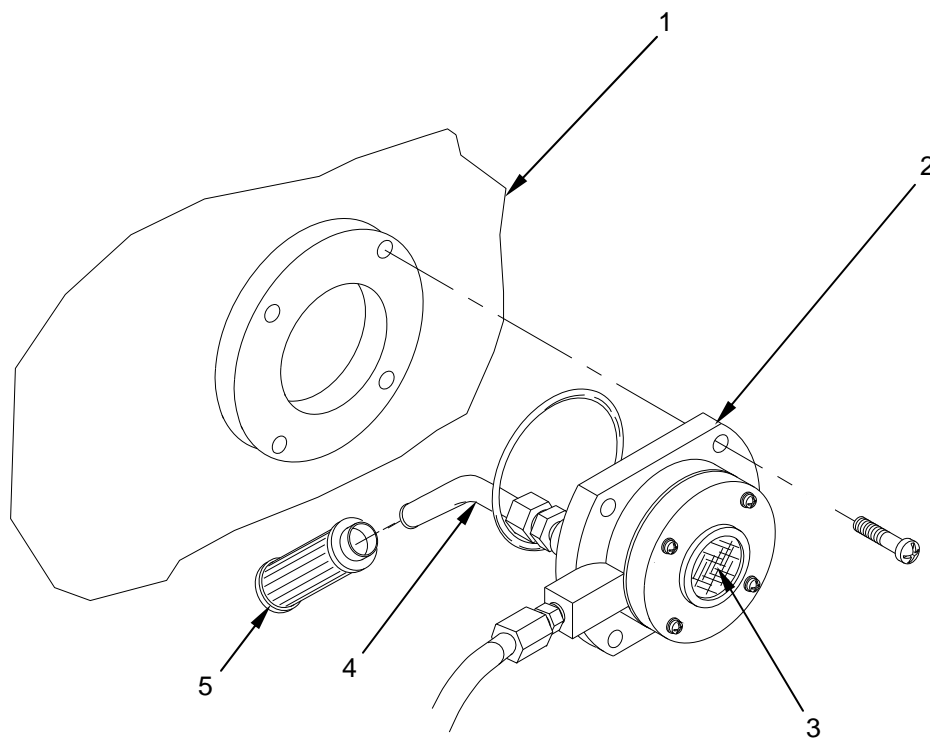

Figure 1. Replace the Pickup Fuel Filter.
1. Check the fuel regulator air vent (Figure 1, Item 3) for dirt or debris and clean with a small soft-bristle brush. Do not use any tool that will force the debris into the filter surface or damage it in any way.
2. Remove the fuel regulator assembly (Figure 1, Item 2) from the fuel tank (Figure 1, Item 1) IAW WP 0025.
3. Pull the fuel filter (Figure 1, Item 5) off the fuel pick up tube (Figure 1, Item 4).
4. Install the new fuel filter (Figure 1, Item 5) onto the fuel pick up tube (Figure 1, Item 4) until it is fully seated.
5. Re-install the fuel regulator assembly (Figure 1, Item 2) into the fuel tank (Figure 1, Item 1) IAW WP 0025.